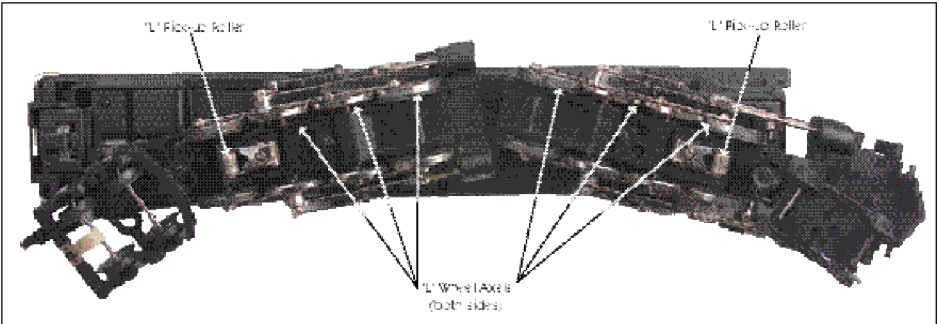

Figure 2 - Lubrication Points on the Engine
3. You should lubricate all side rods and linkage components and pickup rollers to prevent them from squeaking. Use light household oil and follow the lubrication points marked "L" in Fig. 2 on page 10. Do not over oil. Use only a drop or two on each pivot point.
You should regularly lubricate all side rods and linkage components and pick-up rollers to prevent them from squeaking. Use light household oil and follow the lubrication points marked "L" in Figure 2. Do not over oil. Use only a drop or two on each pivot.